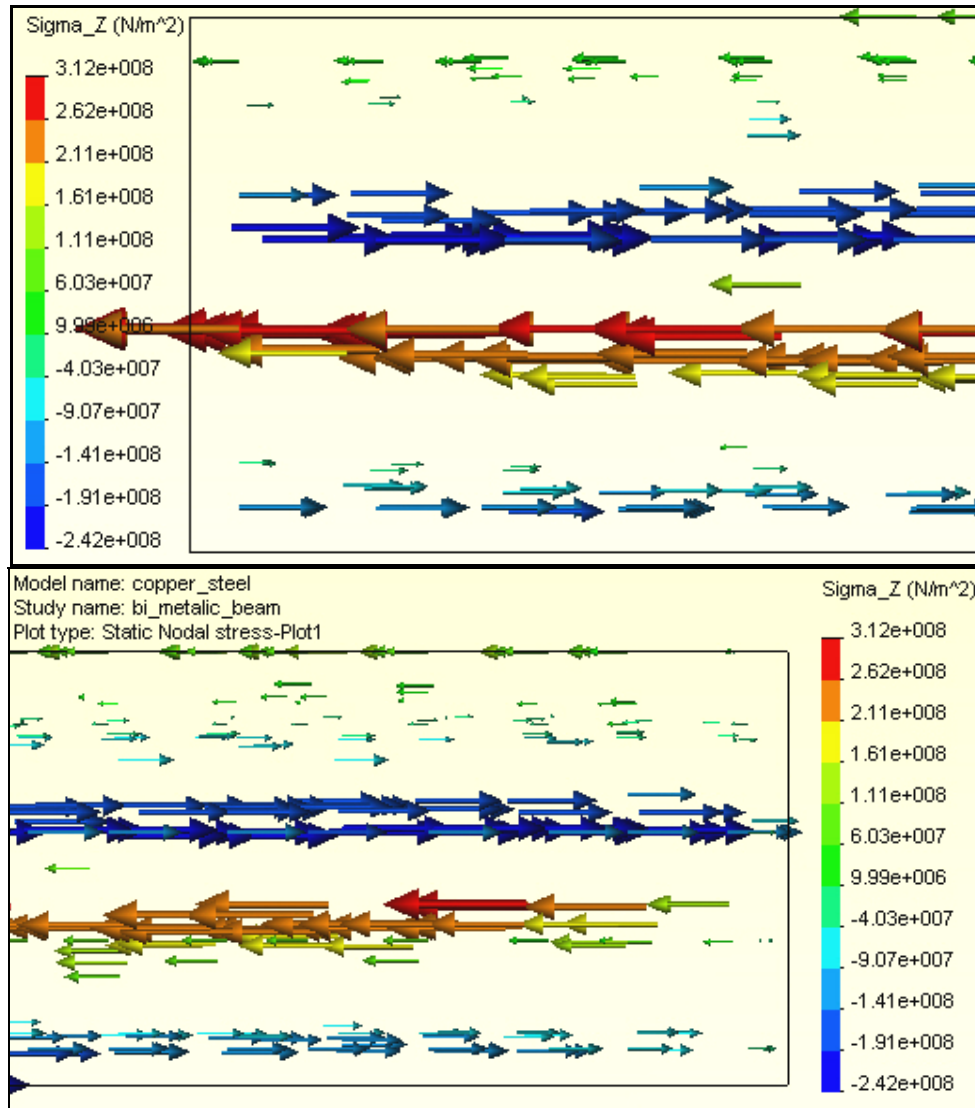

Figure 15-8 The mid-section and free end axial fiber stress component vectors
2. Right click in graphics area, **Vector plot options**, and dynamically control the maximum vector size, and the percentage of nodes shown (see Figure 15-8). Observe that this type of plot does not make obvious the presence of a crude mess.